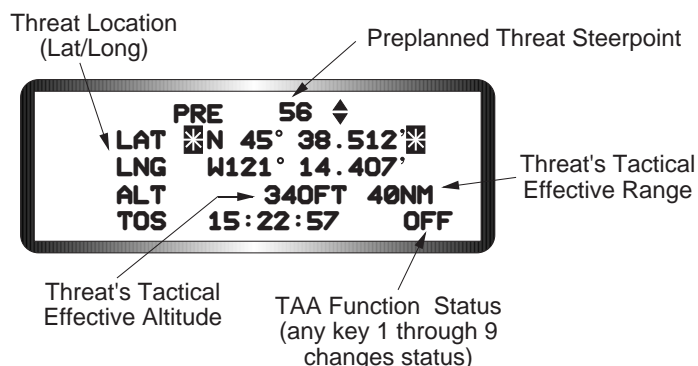

Figure 7-5 TAA Preplanned Threat DED Page
The Threat Area Avoidance (TAA) mechanization, which was carried forward from the F-16A/B OCU to the MLU aircraft, provides the pilot with direction and altitude guidance information that can be used to maneuver the aircraft away from predetermined threat launch envelopes. Threat data is DTC-loaded into the preplanned threat DED locations (steerpoints 56-70) established during mission planning. The data can be reviewed but not changed from the cockpit. The minimum preplanned threat data that must be loaded is the threat’s location (latitude and longitude). The threat’s effective tactical range (in nautical miles) and effective tactical altitude (in thousands of feet) should also be loaded to obtain the most accurate guidance information. Tactical altitudes that have not been rounded to the nearest thousands of feet when programmed on the DTC, will be rounded to the next higher thousands of feet by the UFC when they are loaded into the aircraft. If tactical ranges and altitudes are not DTC-loaded, the system will adopt default values of zero (0) nautical miles and 99,000 feet altitude, respectively. The maximum tactical range and altitude limits of the TAA mechanization are 255 NM radius and 99,000 feet, respectively. The TAA function may be automatically turned ON as a default setting of the DTC load. Manual activation/de-activation of the TAA function may be accomplished from any preplanned threat steerpoint DED page by placing the asterisks about the “ON or OFF” mnemonic at the bottom right corner of the page and depressing any key 1 through 9 (Figure 7-5). Any key 1 through 9 acts as a rotary by changing the state of the currently displayed mnemonic from OFF to ON and vice versa.